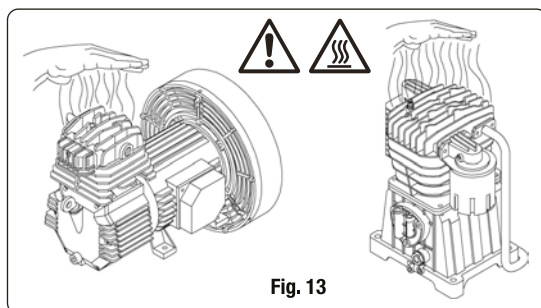

Fig. 13
NOTE: The head/cylinder/supply tube unit can reach high temperatures. Pay attention when working near these parts and do not touch them to prevent burns (fig. 13 -14).
- Be aware that some parts of the compressor such as head and supply tubes can reach high temperatures. To prevent burns, do not touch these components (fig. 13 - 14).